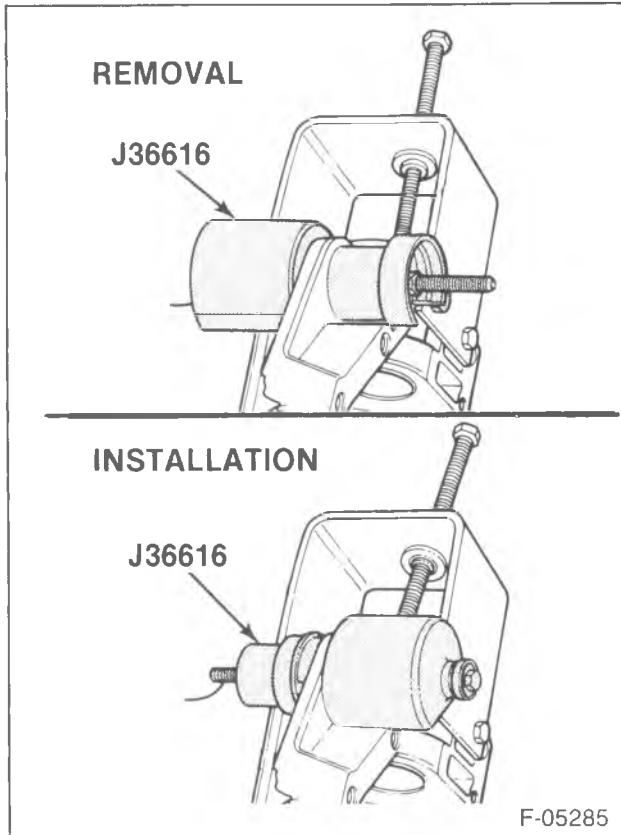

Figure 19—Replacing the Carrier Bushings
- 35. Bolt (24) (K35 models).
- 36. Shaft (52).
- 37. Differential pinion gears (56) and side gears (54).
- Roll the pinion gears out of the case with the pinion thrust washers (55).
- Remove the side gears and the side gear thrust washers (53). Mark the gears and the differential case as left and right.
- 38. Vent plug (60). Use a 6-point deep socket.
- 39. Bushings (48). Use J 36616 (figure 19).